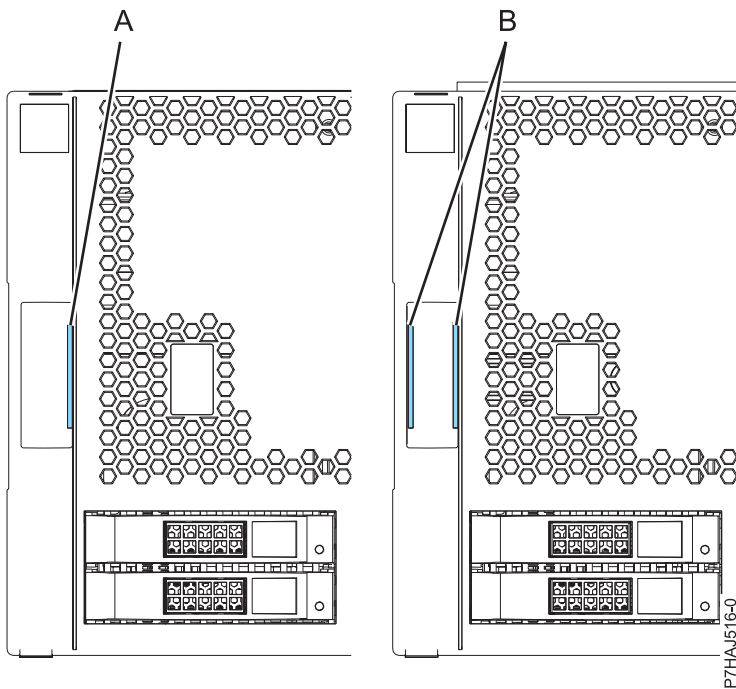

Figure 97. Identifying the older and newer covers
**Note:** The older covers that were shipped before 1 March 2011 can be identified by a single blue stripe (A) on the cover assembly latches. Newer covers that were shipped after 1 March 2011 have two blue stripes (B) on the cover assembly latches. See Figure 97 on page 120.